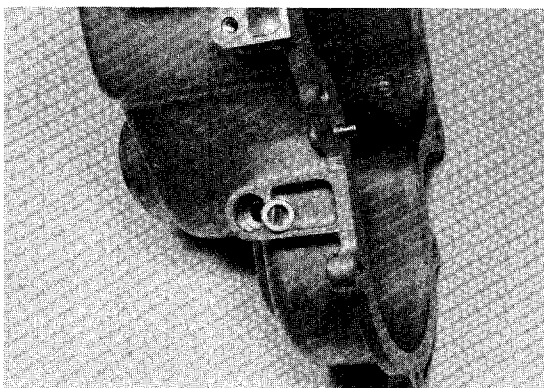

Figure 10-9
9. Remove upper washer (17) from governor arm shaft bore (Figure 10-9).
10. Remove upper retaining ring from governor arm shaft (18).